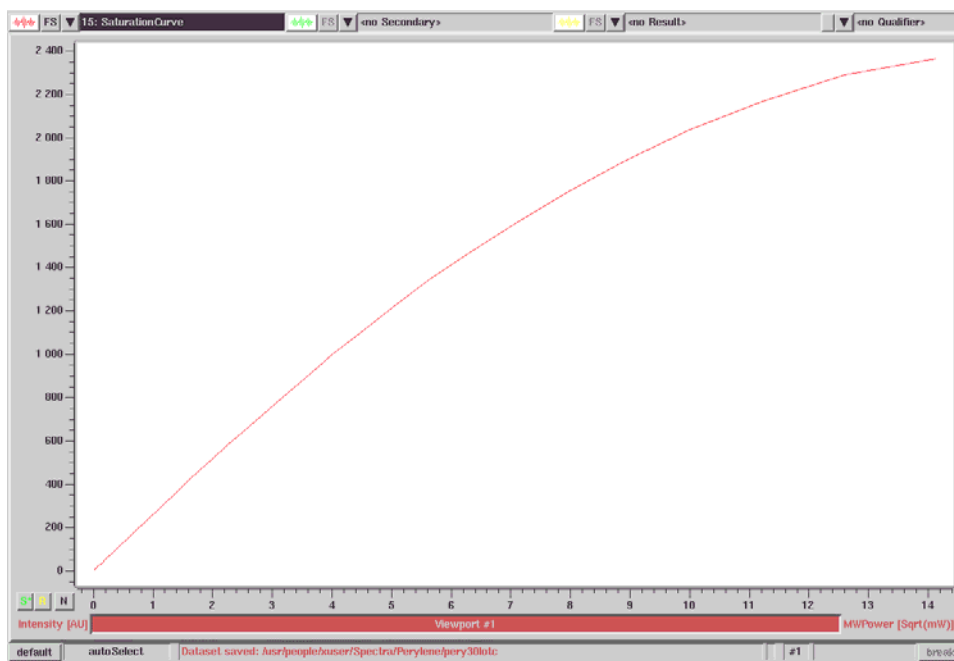

Figure 7-11 The microwave power saturation curve of DPPH sample acquired with a nonlinear 2D acquisition.
5. **Acquire the spectrum.** Click the Run button to acquire the spectrum. Process the 2D dataset. The microwave power saturation curve (peak intensity vs. square root of microwave power) is shown in Figure 7-11.